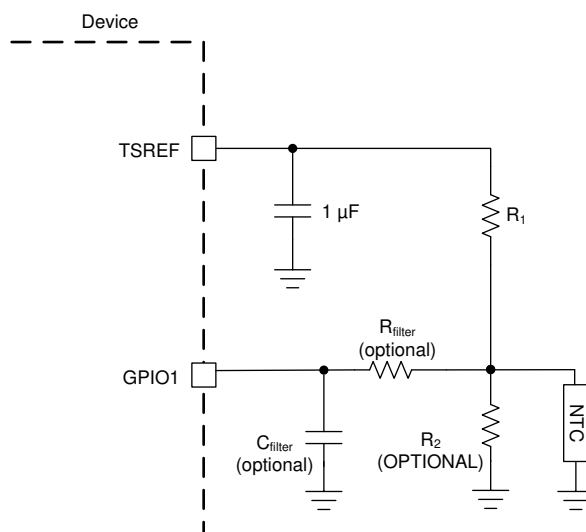

Figure 8-5. Thermistor Connection
Figure 8-5 shows the thermistor circuit when GPIO is enabled for thermistor measurements. MCU ensures TSREF is enabled by setting *CONTROL2[TSREF_EN]* = 1 and settled before taking the measurement value.
- R1 is the pull-up resistor as shown in Figure 8-5 with the assumption the R2 is not used